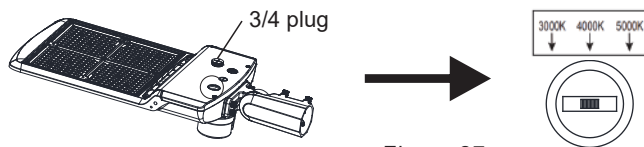

Figure 27
1. Unscrew the 3/4 plug, as shown in the figure 27.